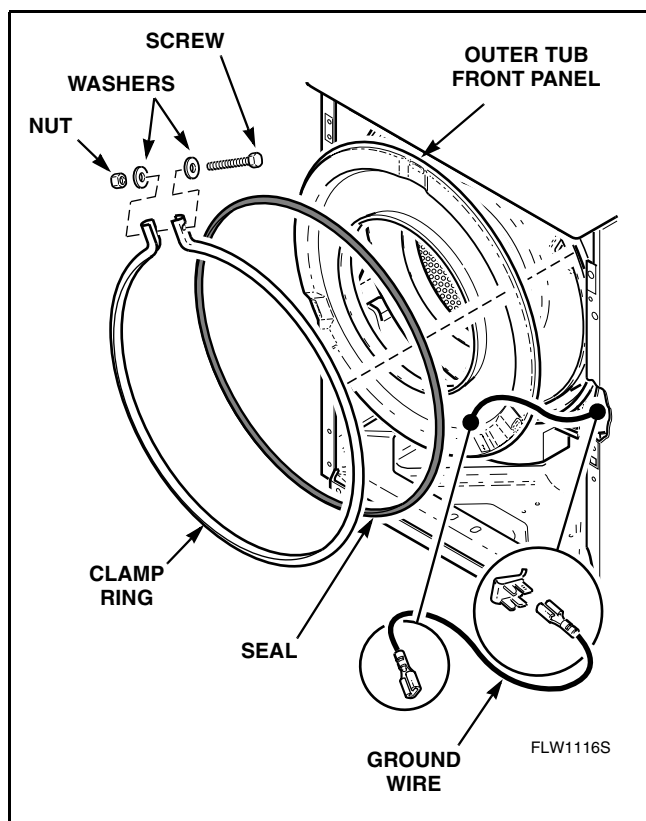

Figure 23
- n. Disconnect ground wire from outer tub front panel. Refer to *Figure 23*.
- o. Remove nut, washers and screw holding clamp ring to outer tub front panel. Refer to *Figure 23*.
- Disconnect ground wire from outer tub front panel. Refer to *Figure 23*.
- Remove nut, washers and screw holding clamp ring to outer tub front panel. Refer to *Figure 23*.